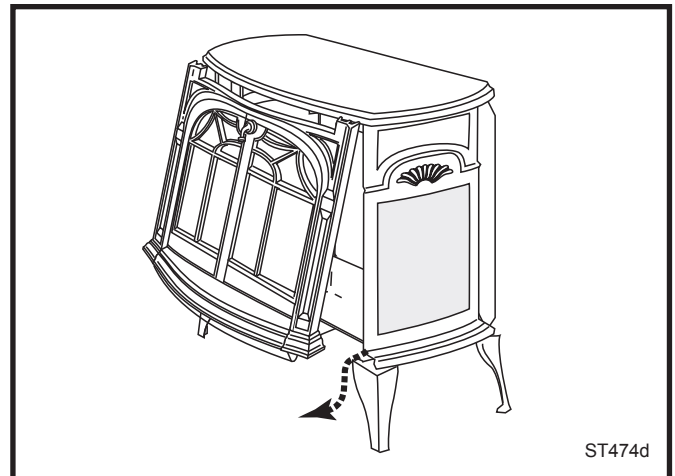

Fig. 67 Remove the Stove Front.
2. Lift the Stove Front up and then swing the bottom out to disengage it from the heater shell. (Fig. 67)
1. Remove the Front, Glass Frame and Glass Panel. (Figs. 67, 68) Remove the old gasket. Use a razor blade to separate the glass and gasket from the frame, and to clean the glass of any remaining cement or bits of gasket. Use a cold chisel if necessary.